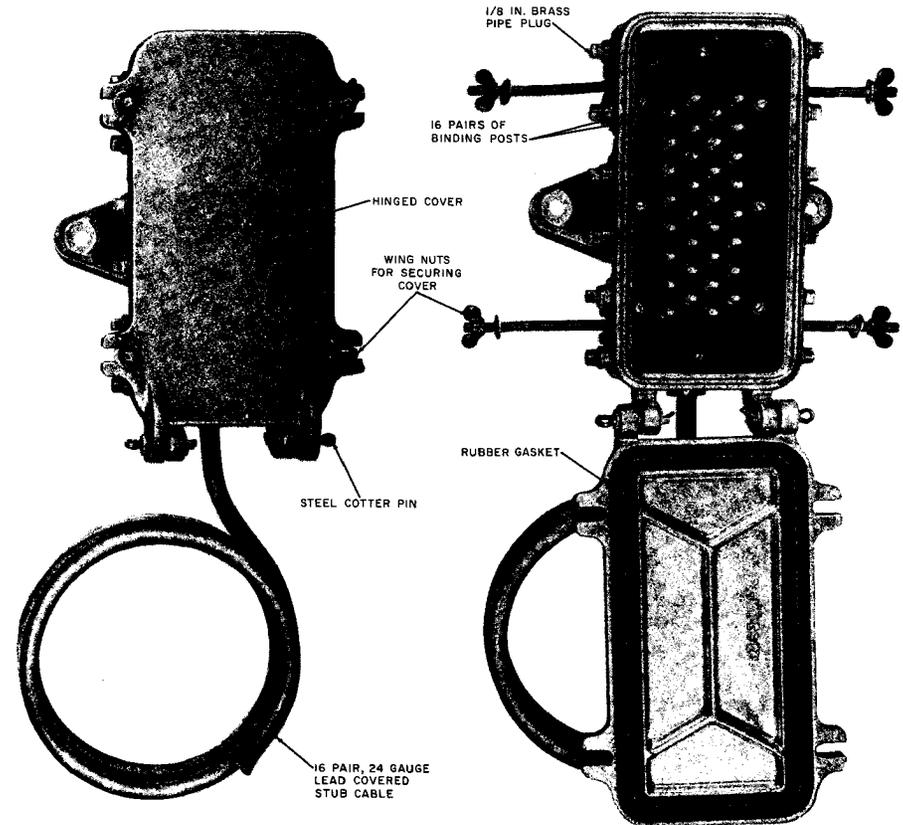

Fig. 1—UG-16 Cable Terminal
2.01 The UG-16 cable terminal (Fig. 1) is a watertight, 16-pair unprotected terminal consisting of a cast iron box with a hinged cover, and a lead sheath stub cable with a gas plug containing 16 pairs of color coded, 24-gauge, PVC-insulated, copper conductors. The cover contains a replaceable rubber gasket for making a watertight seal. The cover is sealed to the box by four steel bolts with wing nuts.